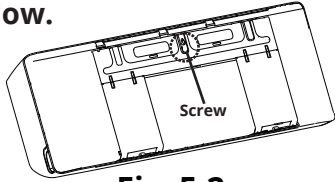

Fig. 5.2
1. Remove the screw that attaches the mounting plate to the back of the indoor unit. Refer to Fig. 5.2 below.